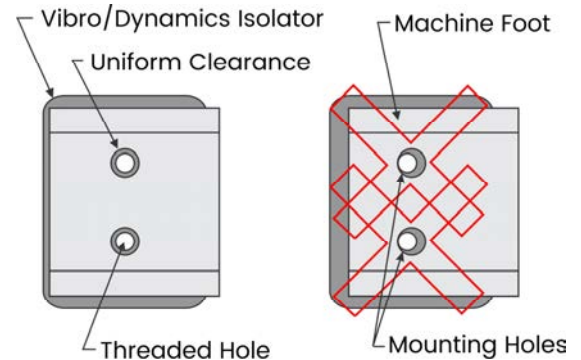

Figure 1
3. Position each isolator under the machine foot so there is uniform clearance between the threaded holes in the isolator and the inside surface of the mounting holes (see Figure 1). Any contact between the leveling screws and the inside surface of the mounting holes as the leveling screws are being turned into the isolator housing can cause a leveling screw to jam. **Note:** The larger model Two-Screw BFM Series are shipped with the preinstalled leveling screws. The isolator should be installed as a unit to the bottom of the machine foot. Two-piece sleeves are provided to protect the leveling screws as they are inserted through the mounting holes. Once installed, remove the top, longer sleeves and install the locknuts tightly against the machine foot. Carefully lower the machine. The short sleeves should remain installed to protect the leveling screws from contact with the mounting holes. If your isolators have preinstalled leveling screws, proceed to Step 7.